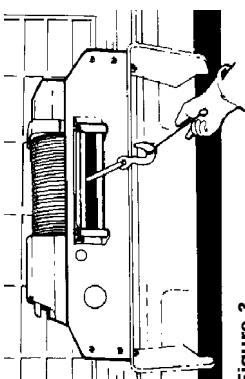

Figure 3
8. KEEP CLEAR OF WINCH WIRE ROPE AND HOOK WHEN OPERATING WINCH. NEVER put your fingers through the hook when reeling in or out the last few feet of rope near the hook. If your finger should become trapped in the hook, you could lose your finger. Use the HANDSAVER BAR (Figure 3) to guide the hook within the last few feet. Never guide a wire rope onto or off the drum with your hand.
27. Your Husky 10 winch wire rope has a ten-foot red "safety stripe" on each end. The "safety stripe" at the end of the wire rope that attaches to the drum warns you that the wire rope is almost completely payed out. DO NOT use the winch for this last ten feet of wire rope since the wire rope end fastener will NOT support a heavy load. The "safety stripe" at the hook end of the wire rope warns you that the wire rope is almost rewound. **ALWAYS USE THE HANDSAVER BAR when handling the hook (Figure 3).** As you use your winch, the red paint will wear off due to normal wear. When this happens, you should renew the red paint as it is a safety feature of the winch.